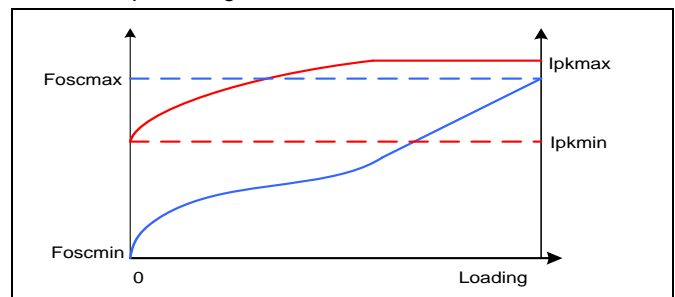

Figure 6. Fosc and Ipk vs. Loading
In order to trade off among different characteristics such as efficiency, no-load standby, audio noise and ripple, an adaptive on-time PWM control mode is employed in GT5311. Under constant current (CC) mode, the system with GT5311 operates on a pure PFM mode; when output load opens, or the output voltage reaches the Max. output regulation voltage, the system operates on a combined adaptive on-time mode in which operation frequency and primary-side peak current are dynamically modulated based on the change of load. **Figure.6** illustrates the trend of frequency and peak current following load-change under Max. output voltage condition.